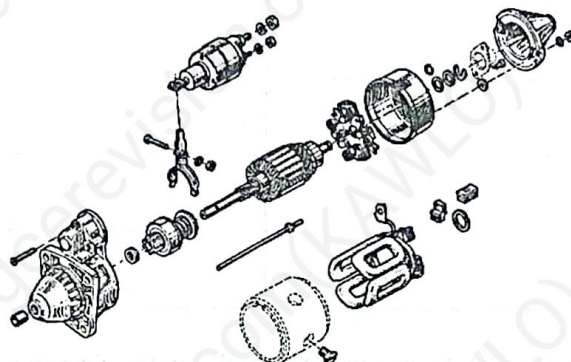

Figure 2.1: Starter motor components
- b) Give four (04) factors upon which the capacity of each cell depends on (2 marks)
- What type of starter motor is shown in figure 2.1 below? Justify your answer. (1 mark)
- Copy and complete the table below in your answer booklet in relation to the various checks being carried out on the parts of the starter motor shown in figure 2.1 above.